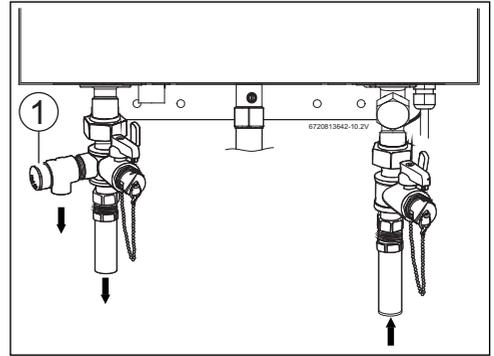

Fig. 15 Plumbing Connections (with shutoff valves) and Pressure Relief Valve
- ▶ Full port shutoff valves should be installed on both the cold water supply and hot water outlet lines to facilitate servicing the heater (see fig. 15).
The location of the PRV must be readily accessible for servicing or replacement, and be mounted as close to the water heater as possible. See fig. 15. To install the PRV, a suitable fitting